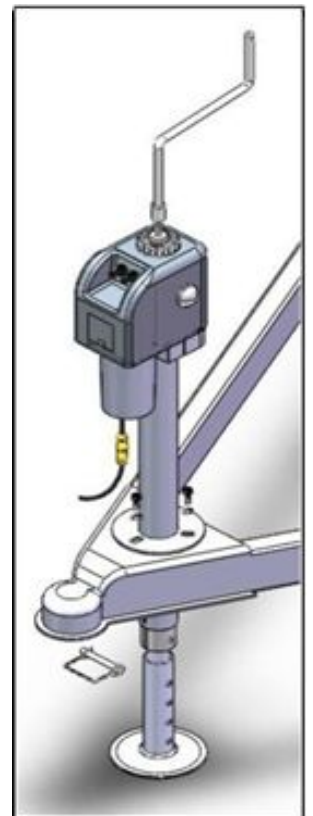

Fig 1
4. Insert the electric jack into the jack hole, aligning the bolt holes so the motor housing is facing forward as shown in Fig 1.
5. Secure the jack with three (3) grade 5, 3/8"-16 UNC bolts and washers. Place the star washers between the flat washers and mounting plate as shown in Figure 1. The star washers are intended to penetrate through the paint on the mounting plate to ensure direct metal to metal contact. Bolts should be tightened to 15-20 ft-lb.